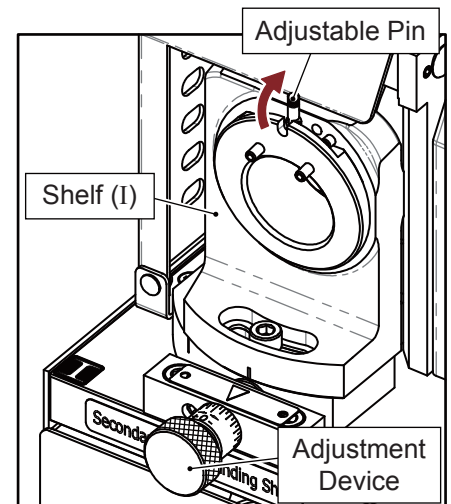

Fig. 7-1
1. Secondary Relief Grinding Shelf (I) (Fig. 7-1)
- ① Move the adjustable pin on Shelf (I) from the bottom to top.
- ② Adjust the Cutting face adjustment device to “0”, after finishing the whole sharpening procedure, then adjust this device according to your needs. (See chapter “XIV. The use of the Cutting Face Adjustment Device”)